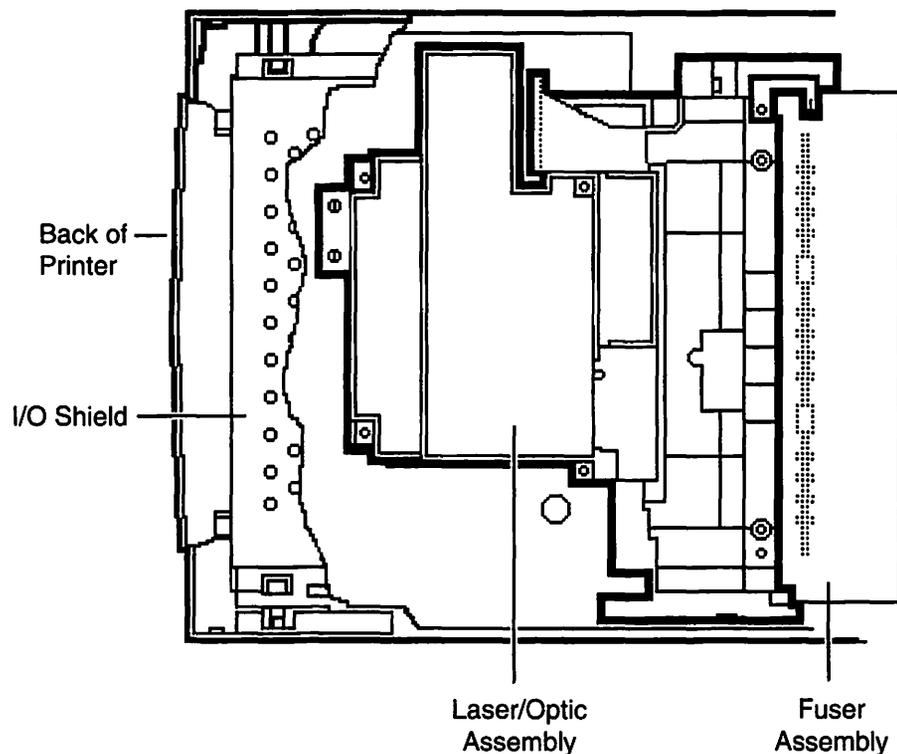

Figure 1-15
- The laser/optic assembly (see Figure 1-15) generates, focuses, and scans the laser beam on to the photosensitive drum in the toner cartridge. At the end of each scan line, the laser beam is reflected onto the start-of-scan PCB, located in the laser/optic assembly, creating an electrical signal which is sent to the DC controller. This signal alerts the DC controller that the next scan line can be generated.